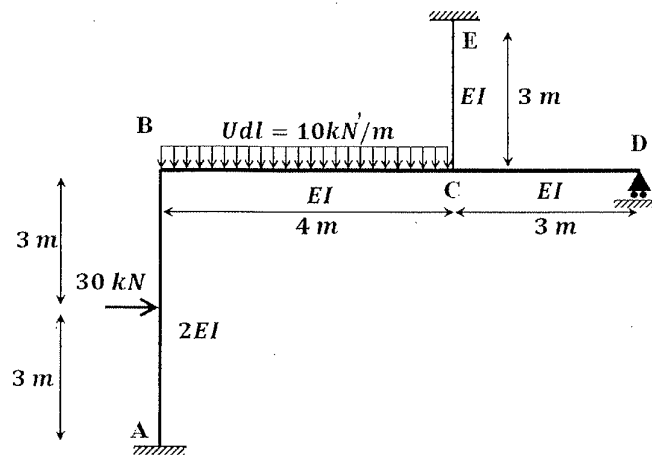

Figure Q1
- (i) Analyze the frame shown in **Figure Q1** using the **Moment Distribution method** and find the moments at *A, B, C, and E* joints. Flexural rigidity of *AB* is $2EI$ and that of *BC, CD, and CE* is EI . (You may use the details given in ANNEX.) [20 Marks]